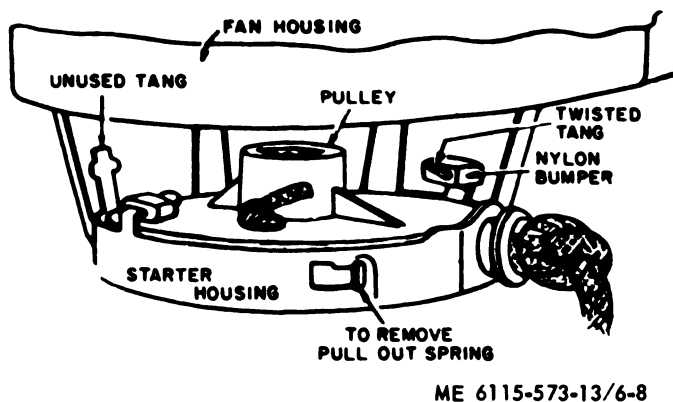

Figure 6-8. Details of rewind starter assembly.
- (1) Remove starter and fan housing (b above).
- (2) Grasp outer retaining hook of spring and pull through slot in housing as far as possible (fig. 6-8).
- (3) Bend up tangs which hold starter pulley or starter housing and remove pulley and spring. If bumpers on tangs are worn, reverse or replace (fig. 6-8).
- (4) Untie remaining knot in starter rope and remove rope from hole in pulley.
- (5) Hook end of new spring to starter pulley (fig. 6-8).